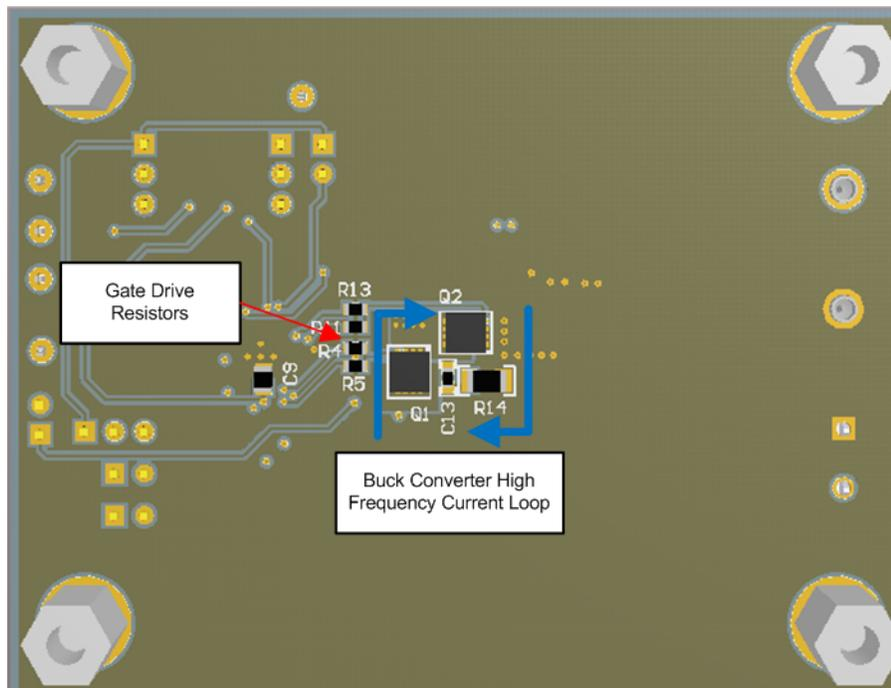

Figure 39. EVM Bottom Layer, High Frequency Current Loop
- Figure 39 shows the high frequency loops of the synchronous buck converter. The high frequency current flows through Q1 and Q2, through the power ground plane and back to  $V_{IN}$  through the ceramic capacitors C6, C7, and C8. This loop must be as small as possible to minimize EMI. Refer to Figure 41 and Figure 42 for the recommended PCB layout.